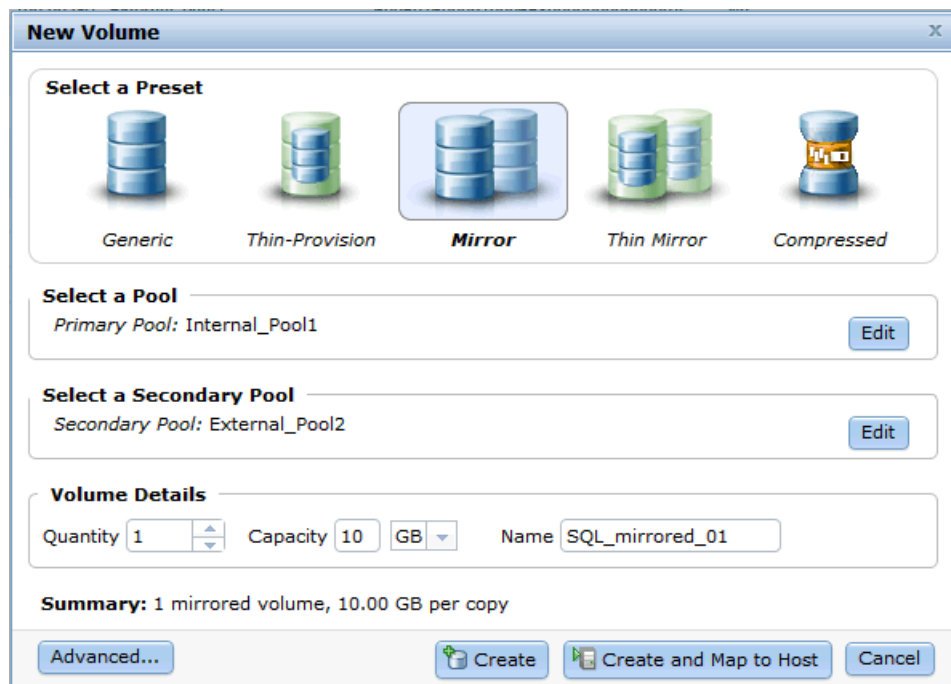

Figure 6-12 Create a mirrored volume - Select pools, name, and size
3. Select the secondary pool by clicking it, and enter a volume name and the required size (Figure 6-12).
- In the advanced mirroring settings, you are able to specify a synchronization rate. Enter a Mirror Sync Rate between 1 - 100%. With this option, you can set the importance of the copy synchronization progress, which enables you to prefer more important volumes for synchronization faster than other mirrored volumes. By default, the rate is set to 50% for all volumes. Click **OK** to return to Figure 6-12 on page 264.